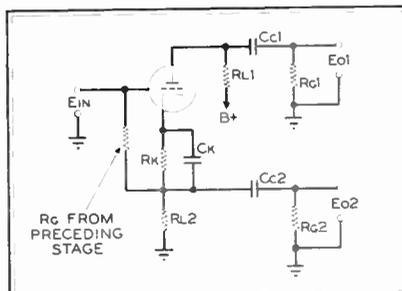

Fig. 2. Phase inversion with split load resistor
**Method 2:** Fig. 2 shows a circuit often employed. Half the load resistance is used as a plate load, and the other half as a cathode load. As always, the signal developed across  $R_{L1}$  is 180° out of phase with the grid voltage. However, the signal across  $R_{L2}$ , in the cathode circuit, is in phase with the grid signal. Thus, the two output signals are 180° out of phase, and of equal amplitude providing that  $R_{L1}$  and  $R_{L2}$  are equal and the coupling networks similar.